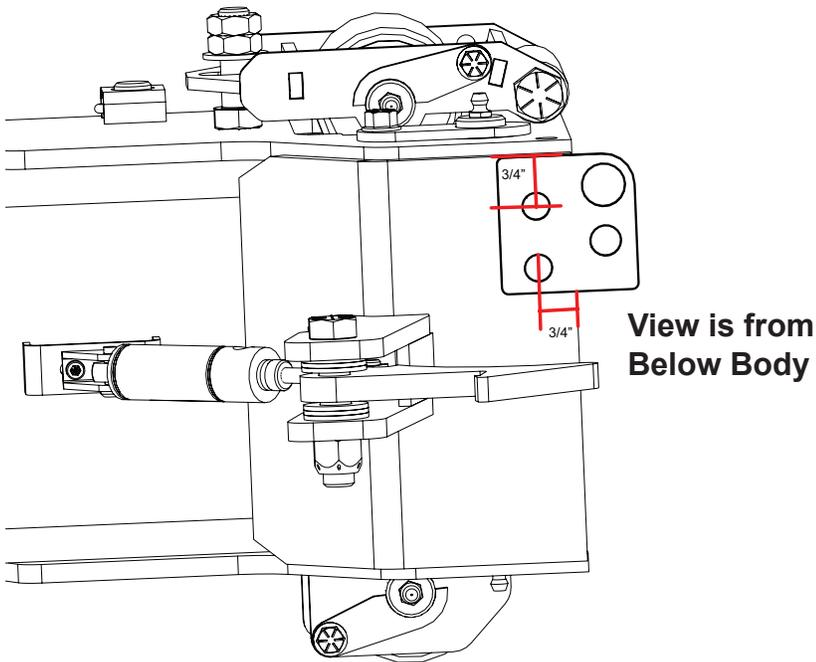

Figure 6: View from Below Body. Measure and place the boom retainer plate assembly (P/N 1515394).
13. **For both the ZR 6' and ZR 12' trucks:** Locate the area on the body for the boom retainer plate assembly (P/N 1515394) (Figure 6 shows the view from below the body).
14. Position the plate so that the two smaller identical holes are under the boom. Place the plate so that the holes are approximately 3/4" from the outside edge (which is the left side when facing) and approximately 3/4" from the front edge. See Figure 6 for a detailed illustration of the measurements shown from below the truck.